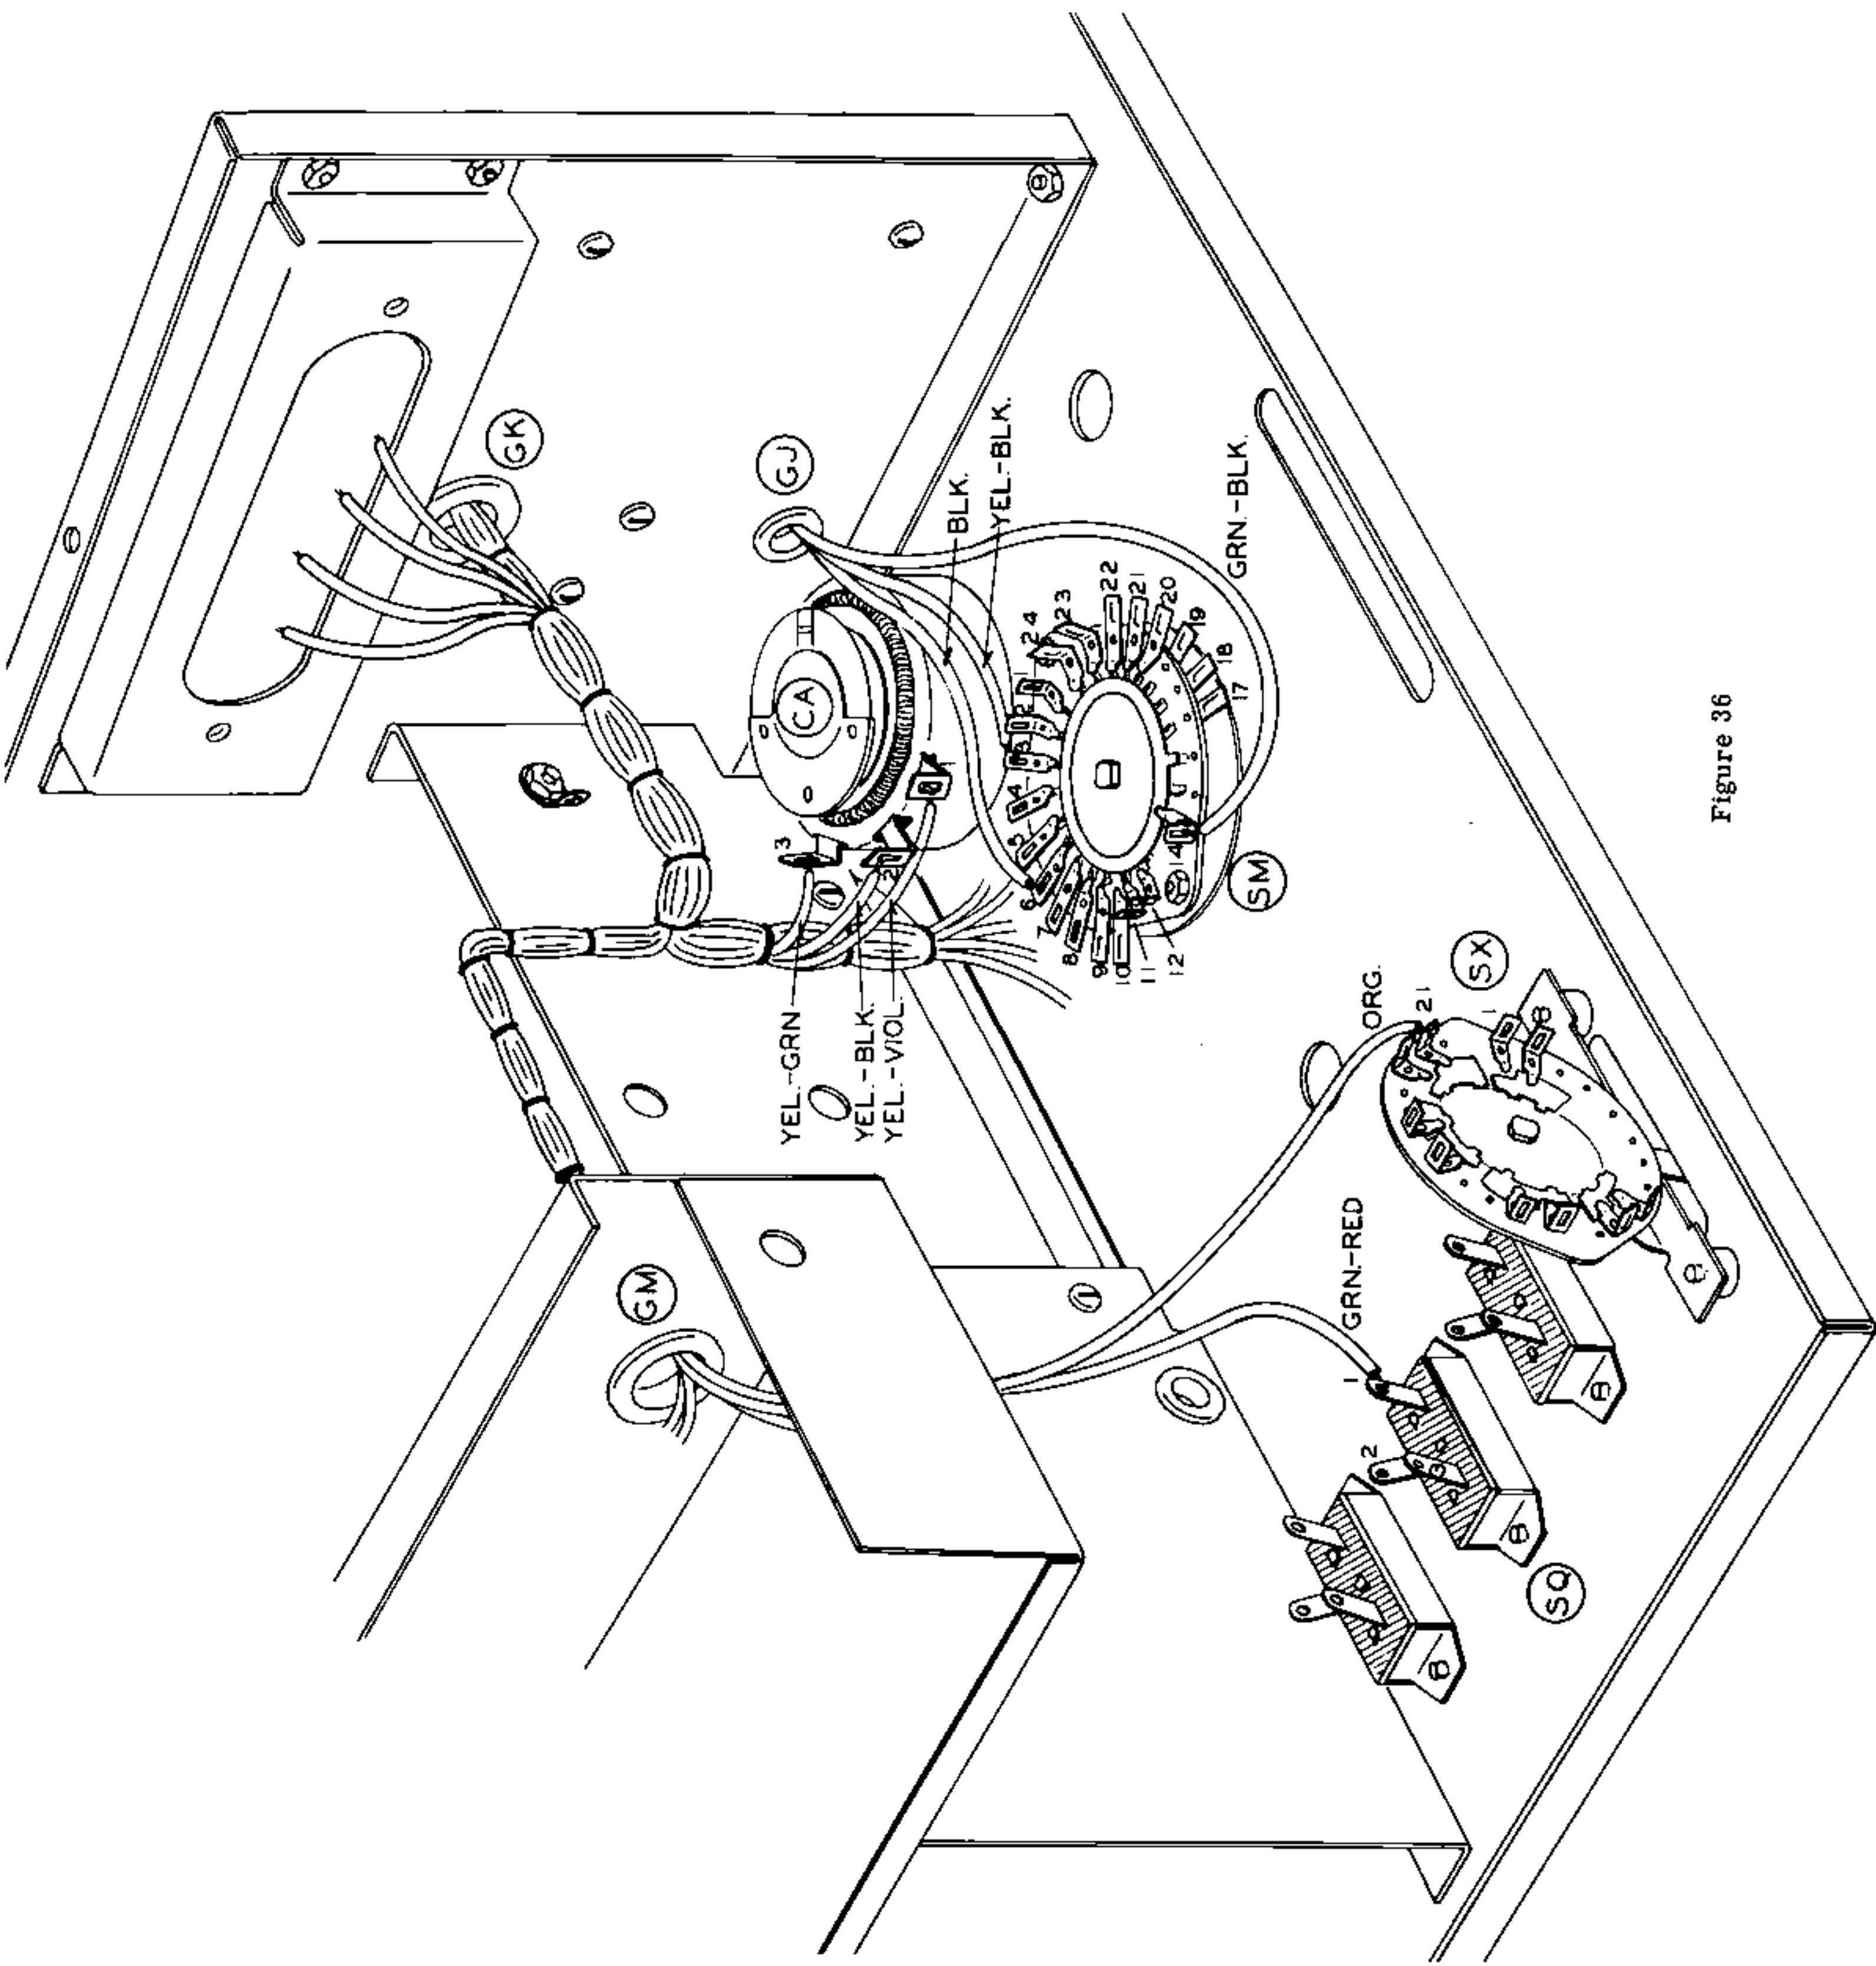

Figure 36
- ( ) Mount the FILAMENT switch (#63-221) with terminal orientation as shown in Figure 36. Terminals 1 and 24 should be toward the top of the panel (nearest chassis). Installation of the knob will indicate the exact orientation of the switch, since the flat on the shaft determines the location of the knob position with respect to the screening on the panel.
- ( ) Pass the black, yellow-black and green-black wires from the tube socket harness through GJ and connect to the FILAMENT switch, as shown in Figure 36 (on fold-out page).
- ( ) Identify the FILAMENT switch cable harness (#134-15). Bend the entire cable at a right angle at the switch breakout. See Figure 36. Start both ends of the cable through the proper grommets, GM and GK. Bring the switch breakout portion of the cable down to the panel between the switch and the roll chart bracket. Be sure to leave room for the SET LINE control to be mounted later. Connect the harness leads to the switch, as shown in Figures 36 and 37.
( ) Mount the SET LINE control CA (350  $\Omega$  25 watt wire-wound, #11-37). **CAREFULLY** bend the lugs as shown in Figure 36 so they will not interfere with the cable harness or come into contact with the roll chart bracket.
Connect the yellow-green, yellow-violet and yellow-black leads which break out of the harness just above the FILAMENT switch to control CA. See Figure 36.